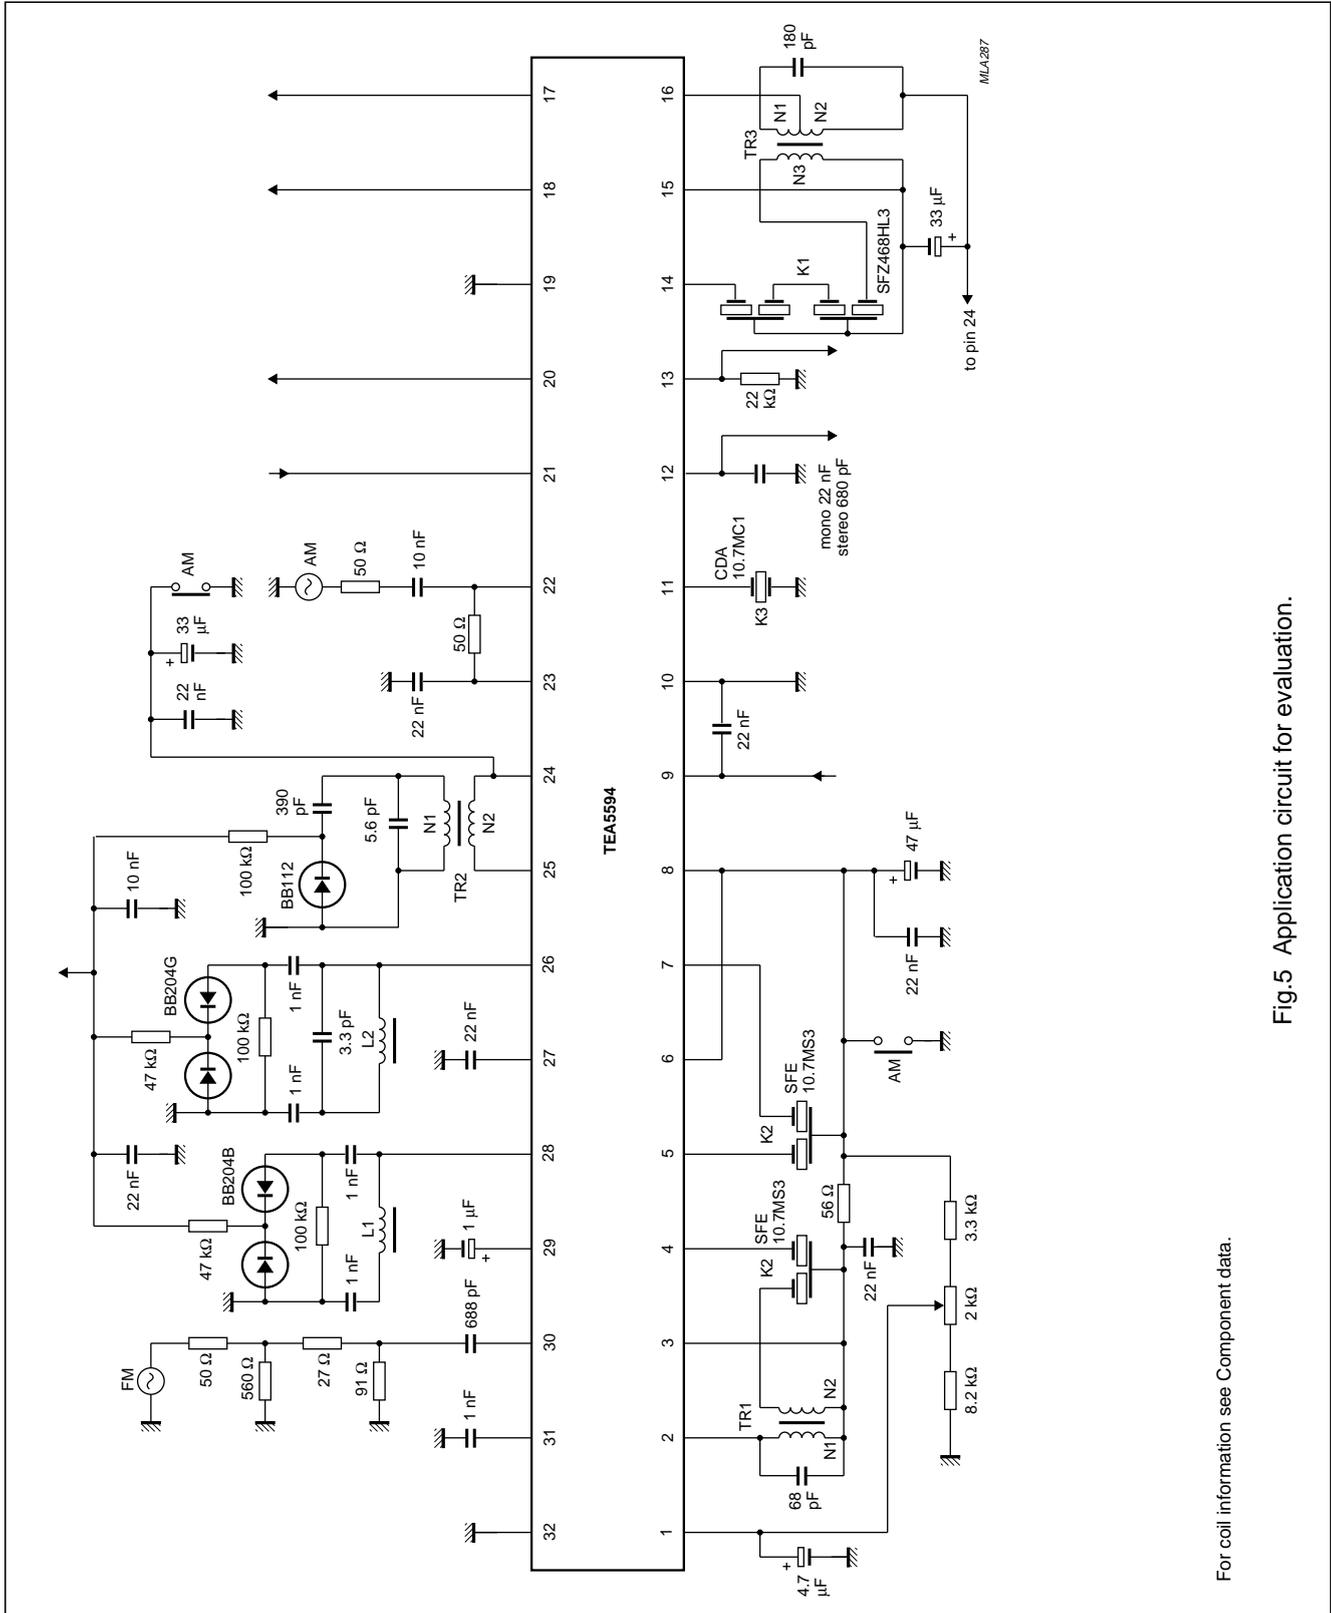

Fig.5 Application circuit for evaluation.
4. Front-end connected to IF plus detector part (see Fig.5). Input frequency = 1 MHz; m = 80% modulated with fmod = 1 kHz.